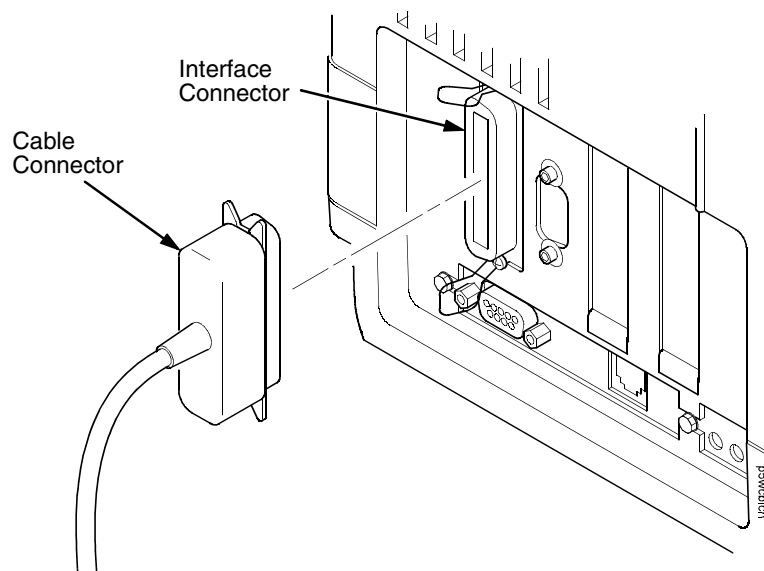

Figure 30. Attaching the Power Cord
4. Plug the power cord into the printer AC power connector, then into the AC power outlet (see Figure 30).